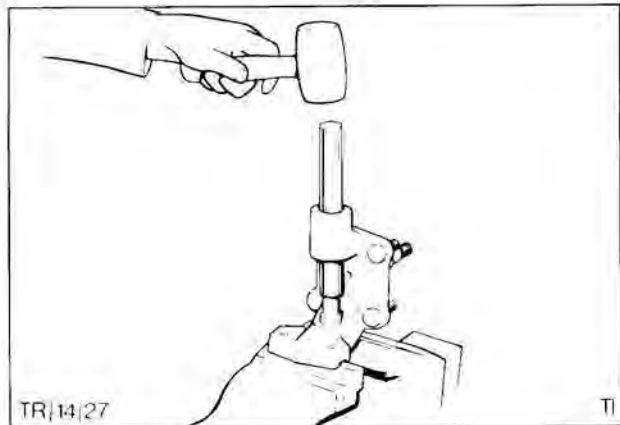

Fig. 27. Removing stub axle bushes
3. Using Tool No. 14 011 remove upper stub axle bushes from the axle, Fig. 27.